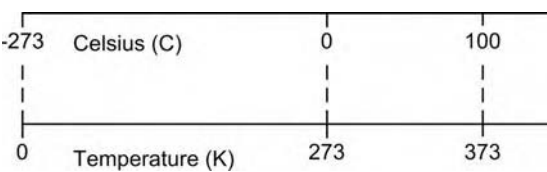

Figure 4.88 Kelvin–celsius scales.
If the graph is “extrapolated” downwards, in theory we will reach a temperature where the pressure is zero. This temperature is known as *absolute zero* and is approximately equal to -273 K . Each one degree kelvin (K) is equivalent to one degree celsius ($^{\circ}\text{C}$). The relationship between the kelvin scale and the celsius scale is shown in Figure 4.88.